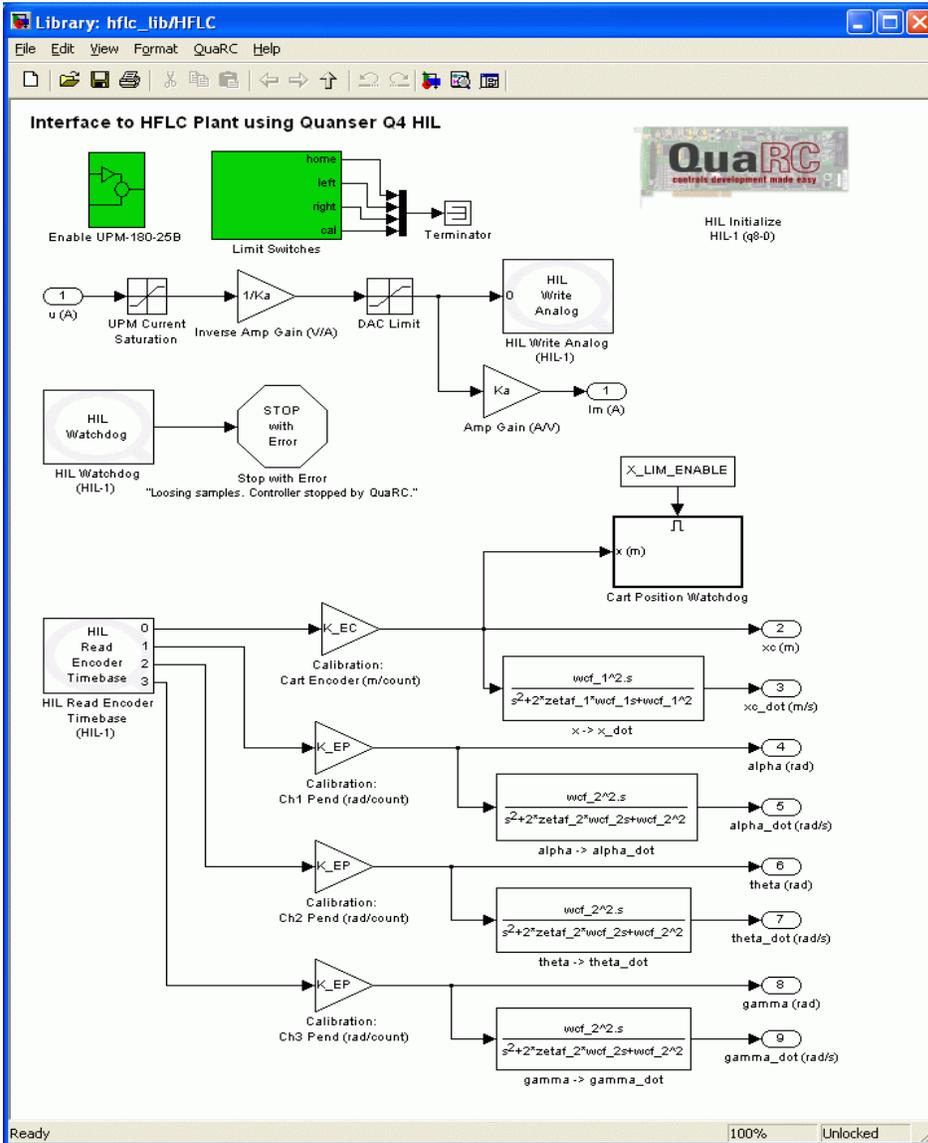
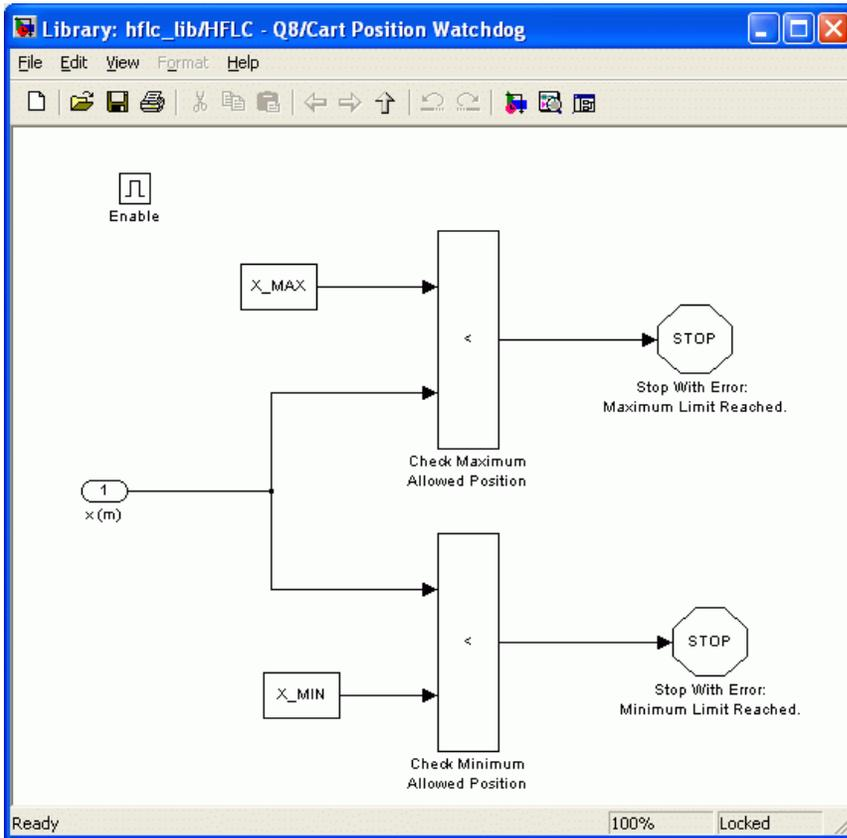

Figure 18 Interface subsystem to the actual HFLC plant.
Figure 21 Cart position watchdog.
The interior of the *HFLC* subsystem is given in Figure 18. This subsystem is standard and is used in all the experiments listed in Table 1. The details of driving the HFLC motor is described in Section 7.1.2. Section 7.1.3 summarizes the calibration gains used to calculate
The values fed to the input terminal of the *HIL Write Analog QuaRC* block shown in Figure 18 are outputted by the Analog Output channel on the DAQ board which is then fed to the power amplifier to drive the motor. The Simulink source node labeled $u(A)$ is the control input to the HFLC. When facing the front of the HFLC, as shown in Figure 1, the cart
where K_a is the amplifier gain, u is the control input, and $IMAX_UPM$ is the maximum continuous current deliverable by the power amplifier or the maximum rated peak current of the HFLC motor, as defined in Table 4. By default $IMAX_UPM$ is set to 15.0 A which is just below the maximum peak current of the HFLC motor, 15.6 A. With this imposed limitation, the control input is saturated at ± 15.0 A (and not by the data-acquisition board). The Im (A) output node shown in Figure 18 is used to read the current running in the HFLC motor.
The *HIL Read Encoder Timebase* block in Figure 18 outputs the number of counts measured by the encoders connected to the Encoder Input channels 0-3 on the DAQ board. The positive cart direction is defined when the cart moves towards the right when facing the front of the HFLC cart, as shown in Figure 1. This is achieved by having a negative sign in the cart encoder sensitivity constant, K_EC , defined in Table 4. In quadrature mode, the encoder mounted on the HFLC motor outputs 8192 counts per revolution. Therefore the sensor gain used to obtain the linear position of the cart is
The *Cart Position Watchdog* block shown in Figure 18 stops the real-time controller when the measured cart position goes beyond the variables X_MIN and X_MAX from its starting position. As shown in Figure 21, this is implemented in the *Cart Position Watchdog* block using *Relational Operators* and *Stop With Error* blocks. The X_MIN and X_MAX variables are specified in the corresponding laboratory Matlab setup file. Further, the safety limit can be enabled/disabled using the X_LIM_ENABLE variable.
The *Enable UPM-180-25B* subsystem is also contained in the *HFLC* block, as shown in Figure 18. This block is required to enable the power amplifier in order to drive the HFLC motor and therefore perform experiments. The amplifier is therefore not enabled unless QuaRC is running a controller that was built from a Simulink model that included this block. See Reference [3] for details on enabling the UPM-180-25B device.